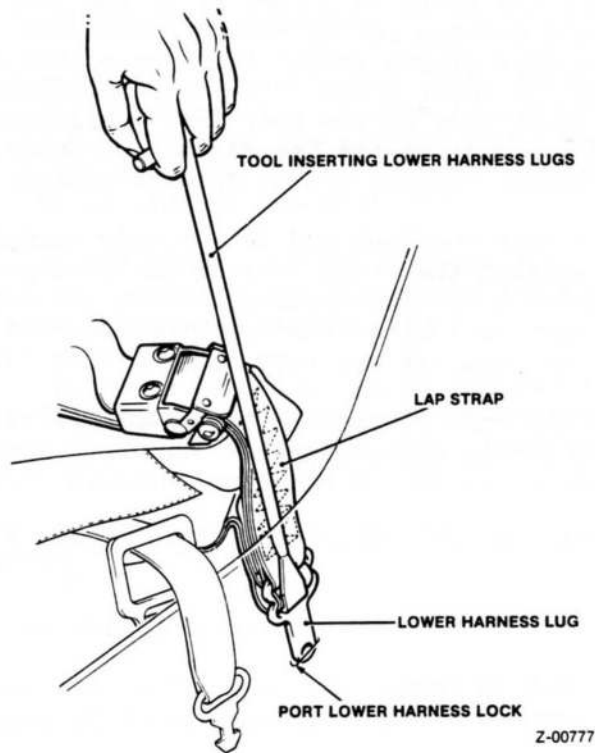

Fig 8 Inserting the lower harness lugs
41.8 Ensure that the back pad is securely attached to the harness and locate it against the front face of the seat pan back rest. Lay the lower harness on the PSP cushion. Using the lug insertion tool engage the lower harness lugs in the lower harness locks. Pull on the harness to ensure the lugs are securely engaged (fig 8).